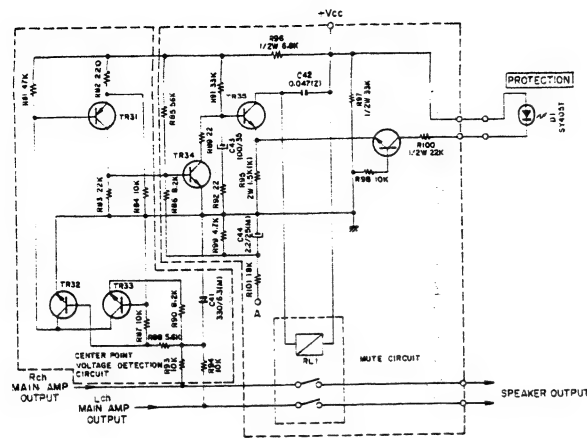

Fig. 14
Also when TR15 is turned ON, TR17 base potential is decreased to turn on TR17. TR15 base potential is thereby further increased to make the operation fullproof. Also when TR15 is turned ON, relay RL1 (see Fig. 14) turns OFF and the power amplifier output is disconnected from the speaker.
6) Mute Circuit (Refer to Fig. 14)
When the power of the amplifier is turned on or off, pop and distortion noise generate to damage the speakers or produce unpleasant sound. The mute circuit of Fig. 14 prevents these.
7) Center (node) Point Voltage Detection Circuit (Refer to Fig. 14)
When there is DC potential at the power amplifier's speaker output terminal, the DC will flow to the speaker in the case of OCL circuitry and damage the speakers. For this reason, when there is a DC potential, a circuit is necessary to detect the potential to turn off the mute circuit relay RL1 and cut off the speaker from the power amplifier output. This circuit is called a center (node) point voltage detection circuit and is shown in Fig. 14.